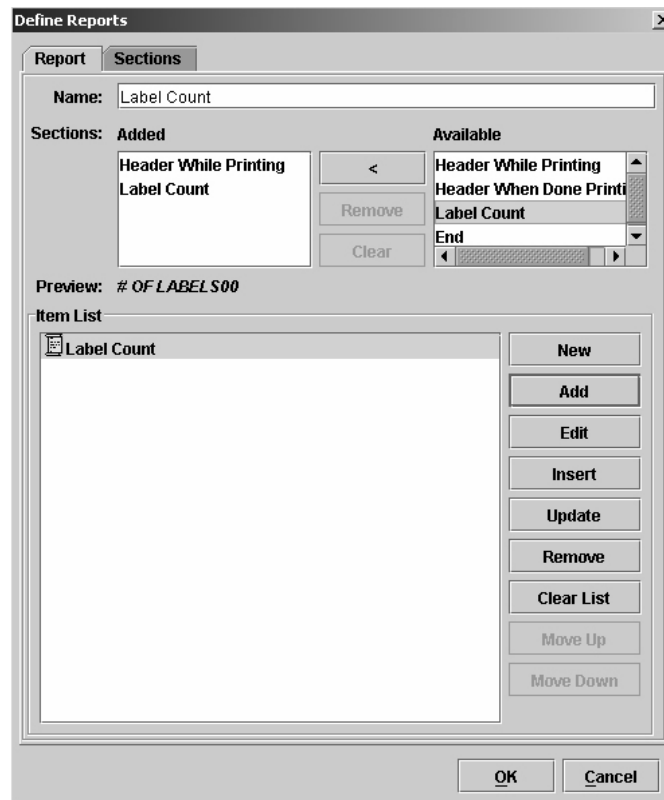

Figure 38. Adding Available Sections
7. Click the **Add** button. Label Count is added to the item list (Figure 38).